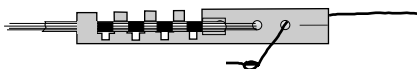

Figure 32. Attach suture to short stylet.
9. Attach a suitably stiff suture to the short stylet and pass it through the hole provided, leaving a long enough tail to pass through the tube (Figure 32).